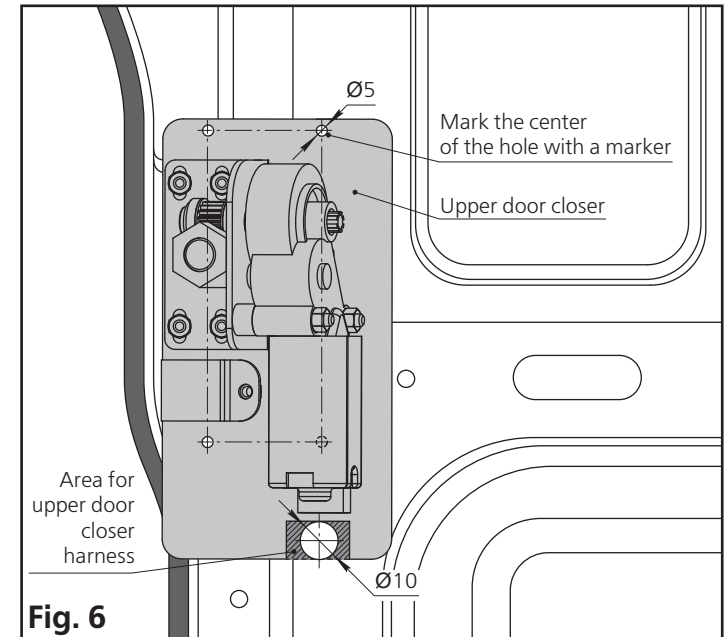

Fig. 6
2. Insert the door closer body into the hole made and attach the upper door closer to the door opening post, mark with a marker the centers of the fixing holes for rivets 4.8x12 for fixing the upper door closer bracket (Fig. 6).
3. To lay the upper door closer harness, mark with a marker the center of the technological hole in the dedicated area (Fig. 6).
4. Remove the upper door closer (Fig. 6).